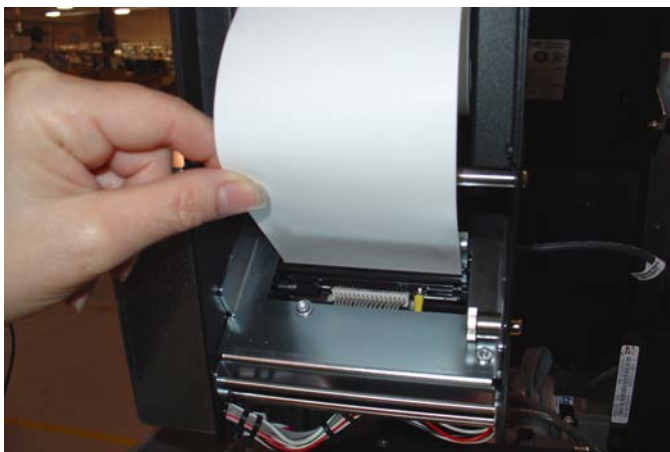

Figure 10. Insert paper into take-up slot.
11. Place the paper roll w/spool back on to the paper bracket ensuring that the paper feeds from the **TOP** of the roll. **Power up the ATM.** Insert the edge of the paper into the printer take-up slot as shown in Figure 10. **NOTE: Paper feeds OVER the bar.** The printer will automatically grip and pull the paper into the paper path.